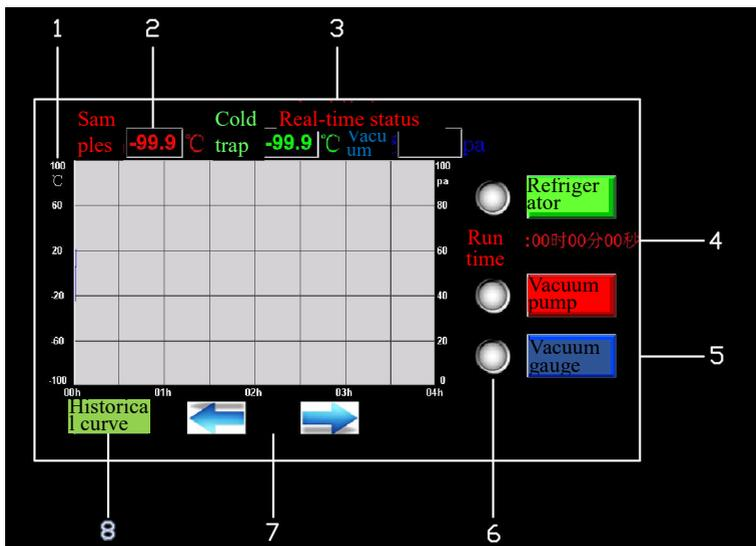
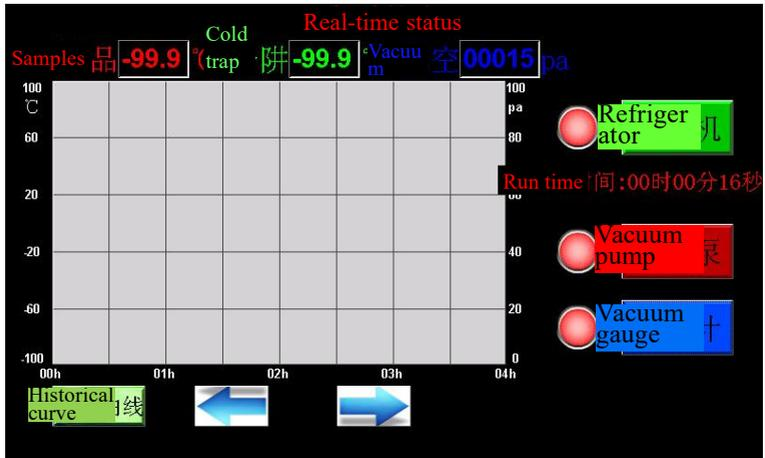

Fig. 3 Main operation interface
Fig. 4 Device start-up interface
3) Click the center of the display to enter the "Main operation interface" (Fig. 3).
f) Equipment status bar: The refrigerator, vacuum pump and vacuum gauge are displayed in white when they are turned off (Fig. 3), and in red when they are turned on (Fig. 4).
b) Click the center of the screen to display the interface as shown in Fig. 3, and click the "Refrigerator" button to start the pre-freezing, which is recommended to last for about 4 hours.